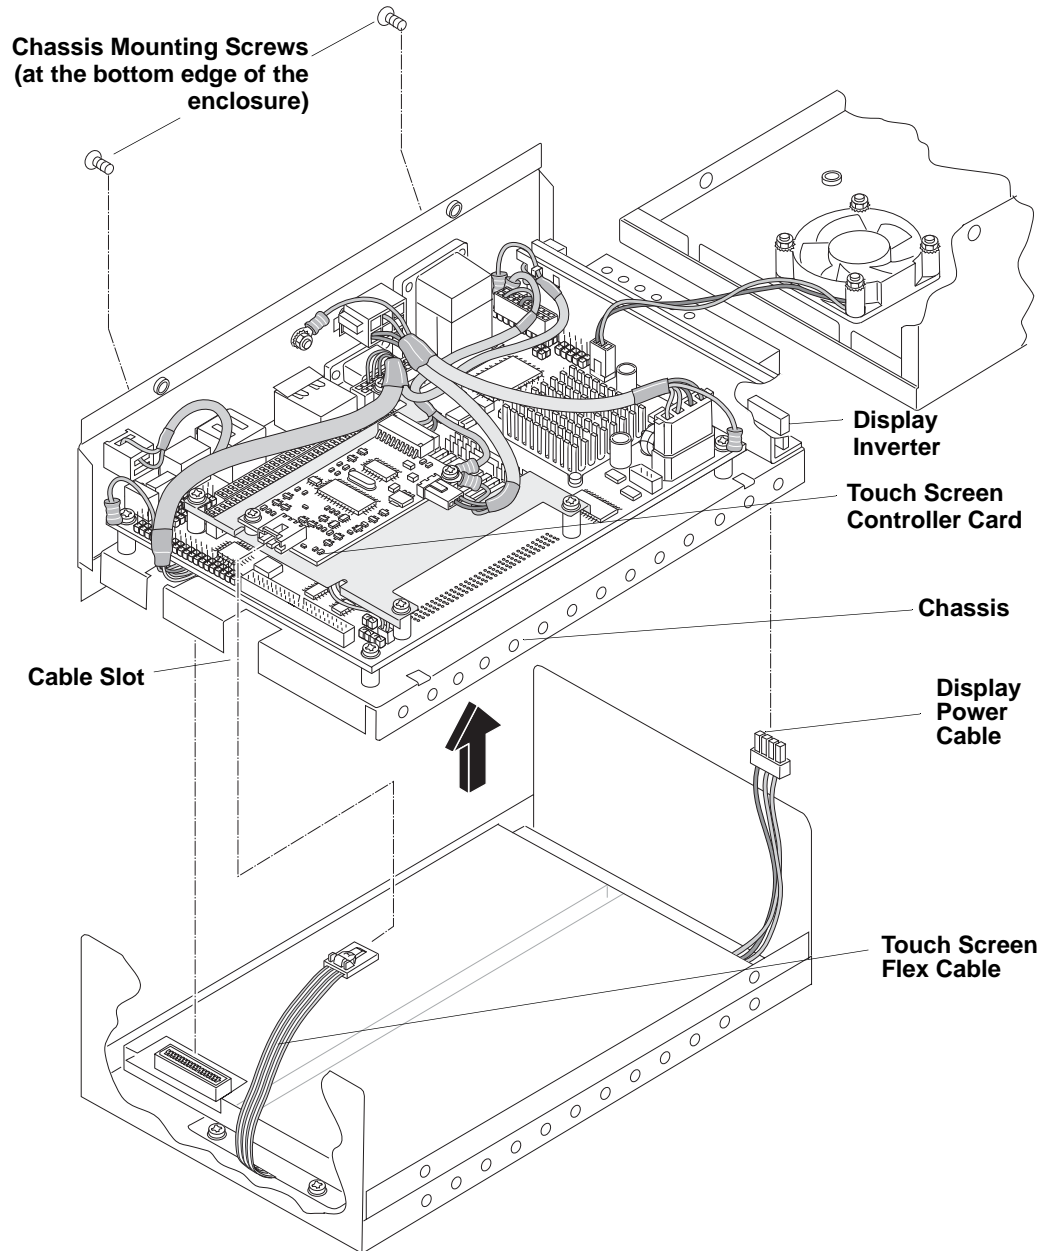
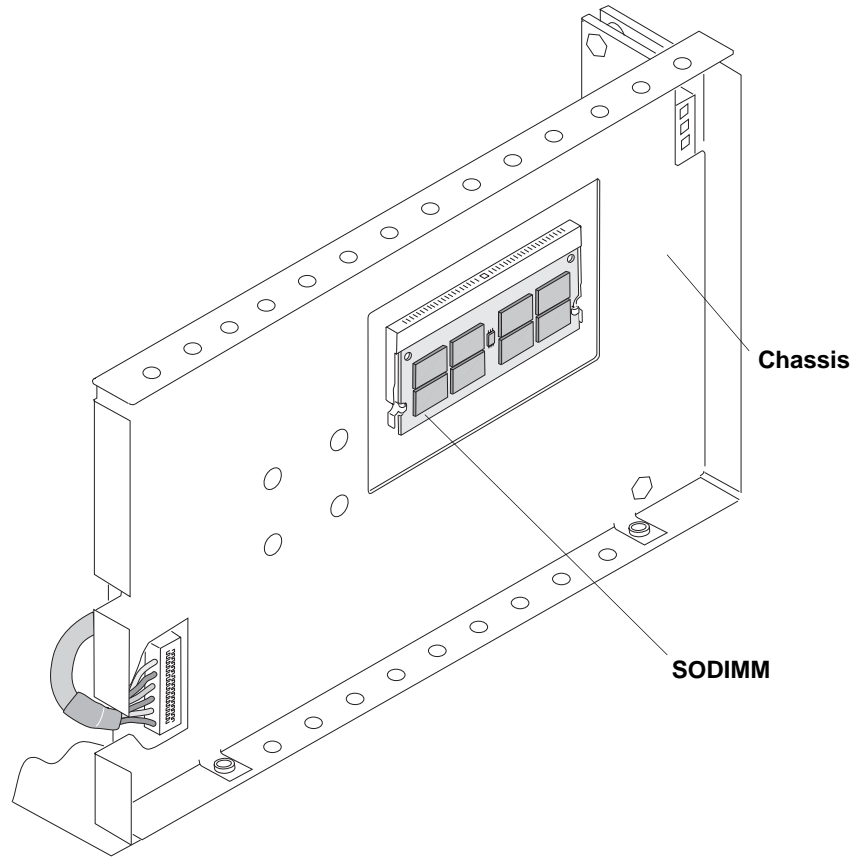

Figure 2-2. Exploded View of Enclosure with Chassis and Board
Figure 2-3. Bottom view of Chassis with SODIMM in Socket
To Remove the SODIMM from the ReadyPanel (See Figure 2-2 and Figure 2-3)
7. Remove the SODIMM through the cutout in the bottom of the chassis shown in Figure 2-3.
3. Install the SODIMM into the socket as shown in Figure 2-3.